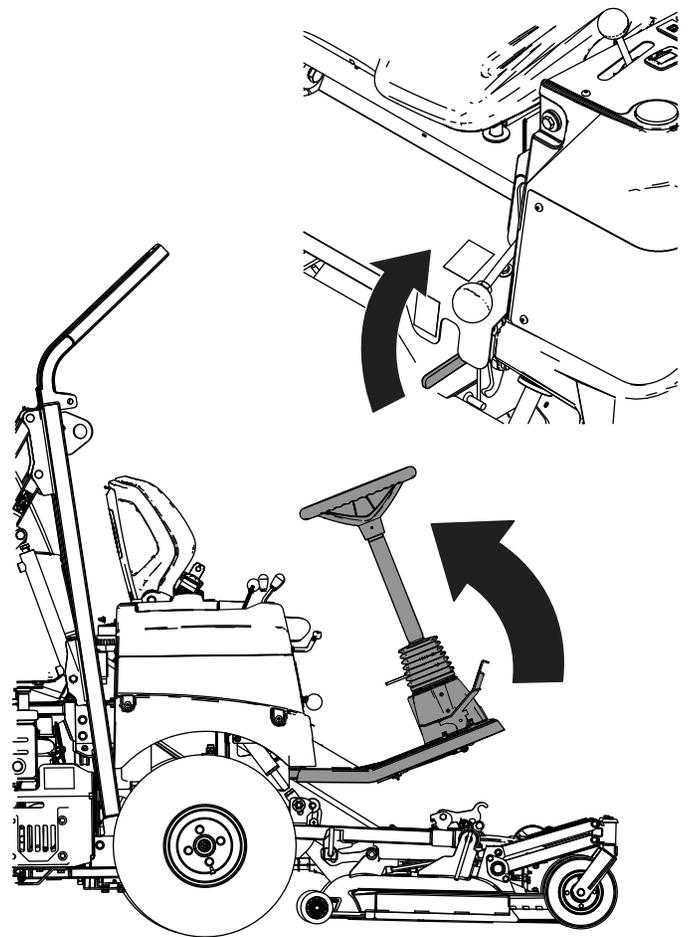

Figure 88
7. Lift the operator platform upwards and engage the locking lever (Figure 88).